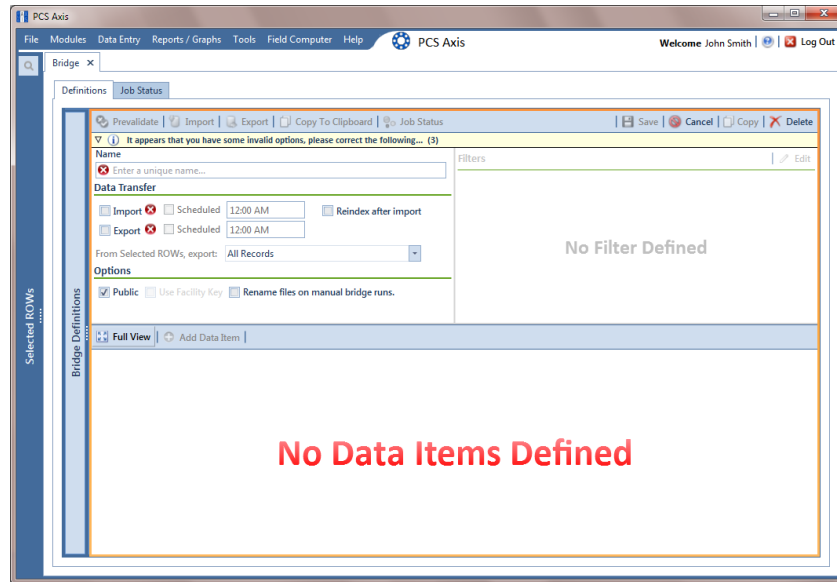

Figure 10-13. Basic Definition Panel
- 3 Click  **Basic** to open the basic definition panel. Then click the title bar of the *Bridge Definitions* panel to hide the panel. (Figure 10-13).